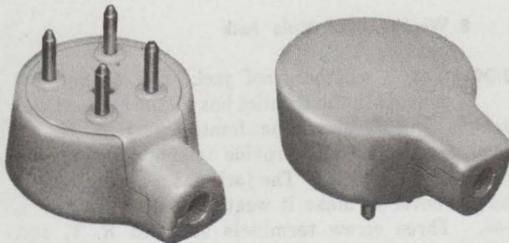

Fig. 48—505A Plug
3.07 The 505A plug (Fig. 48, 49, 50, 51) is a 4-contact plug similar to the 504A plug; in addition, however, it has a cord fastener which holds the cord in place while spade tips are being connected. The cord fastener also anchors the mounting cord in the assembled plug. The plug is available in colors shown in Table C. The current